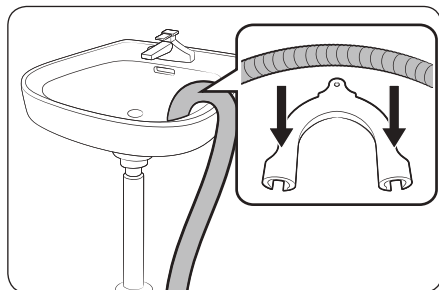

Fig.7
- Hook the U-Connector over the side or stand pipe (Fig 7.)